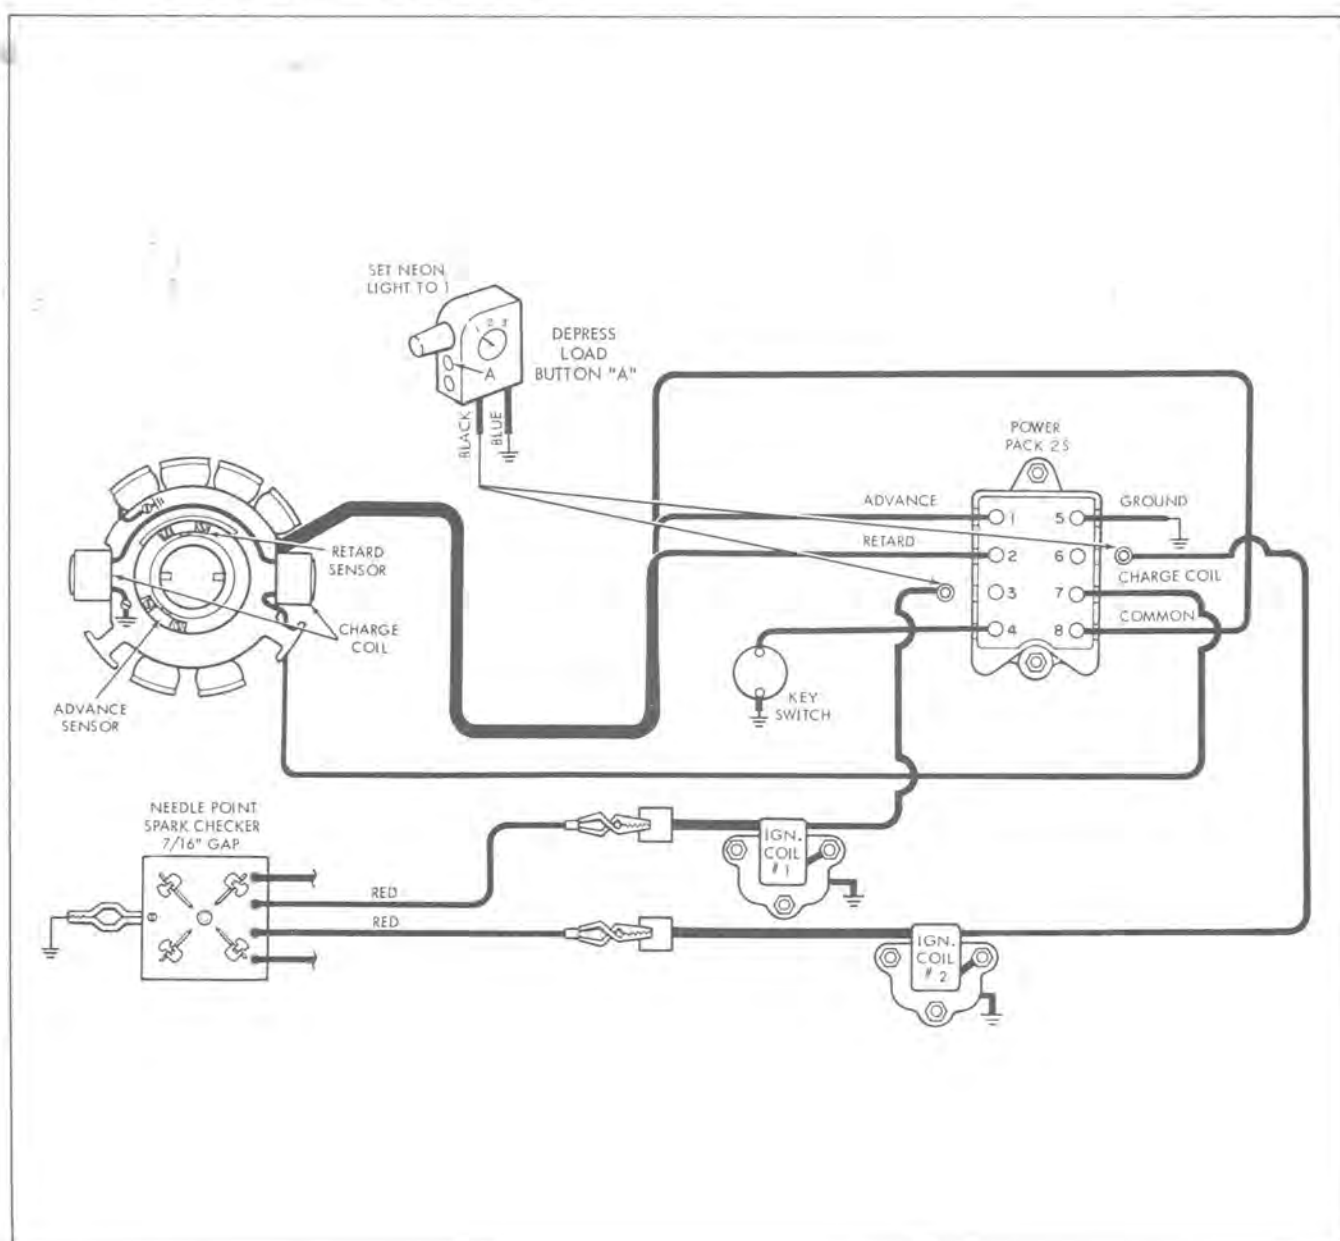

Figure 7-13
- A. Remove ignition coil orange primary leads from terminals #3 and #6 of Power Pack. See Figure 7-13.